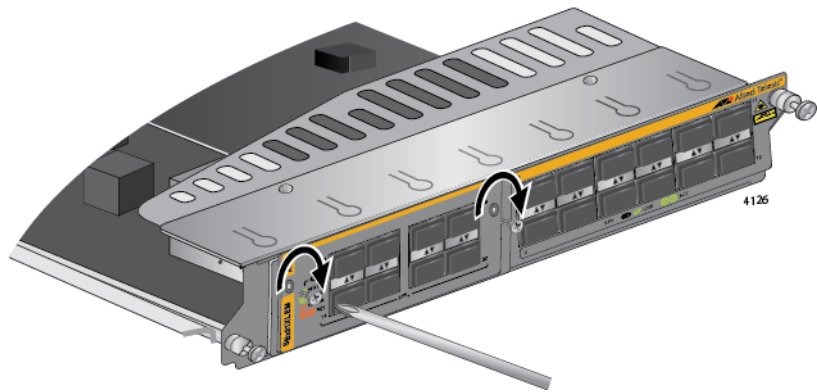

Figure 79. Securing the Expansion Module
10. With a Phillips-head screwdriver, install the two screws from step 4 to secure the expansion module to the line card. Refer to Figure 79.